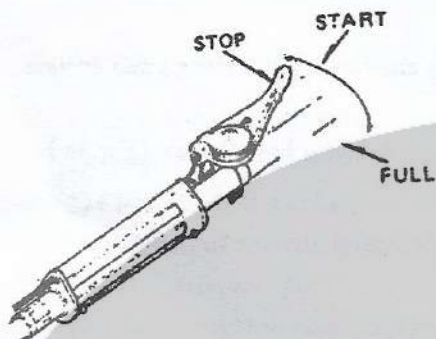

Fig. 9
- 2) Move the throttle lever to start position or about 1/4 full throttle, in case of metal lever. (Fig. 9)